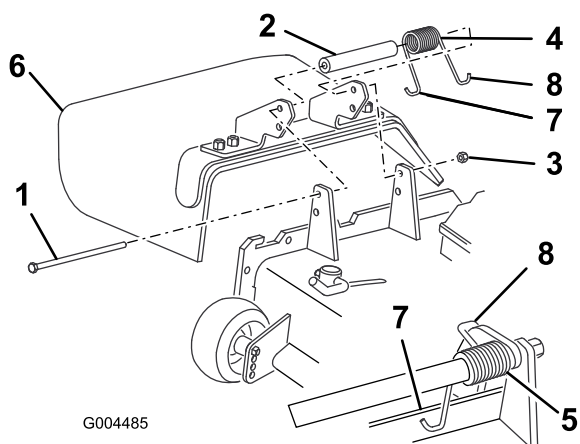

Figure 76
2. Remove the locknut, bolt, spring and spacer holding the deflector to the pivot brackets (Figure 76).
- Place the spacer and spring between the replacement grass deflector brackets (Figure 76).
Note: Make sure the left J-hook end of the spring is installed behind the deck edge before installing the bolt as shown in Figure 76.
Note: Place the right J-hook end of the spring around the grass deflector (Figure 76).